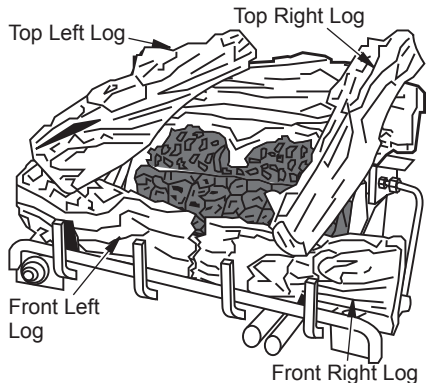

Figure 26 - Installing Logs
4. Place top left log as shown in Figure 26. The bottom of the log is shaped to fit onto the recessed areas of the front left log and the rear log. The recessed areas are painted yellow.
5. Place top right log as shown in Figure 26. The bottom of the log is shaped to fit onto the recessed areas of the front right log and the rear log. The recessed areas are painted yellow.